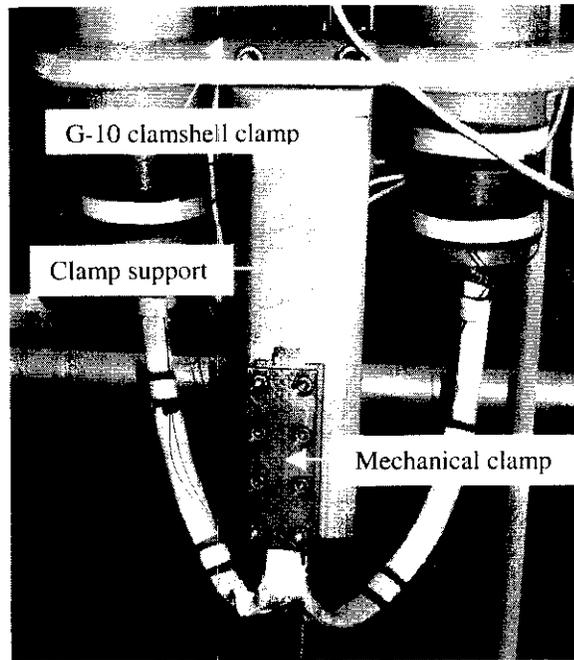

Figure 4.1b Electrical integration of the LTS sections.
4.2 Make connection to LTS pigtailed. The joint is a mechanical connection with a stainless steel clamp (supplied by LBNL) and indium foil between the cables to ensure good electrical contact. Figure 4.1a shows a rendition of the installed power leads. Figure 4.1b shows the G-10 clamshell clamp, the clamp support, and the mechanical clamp.